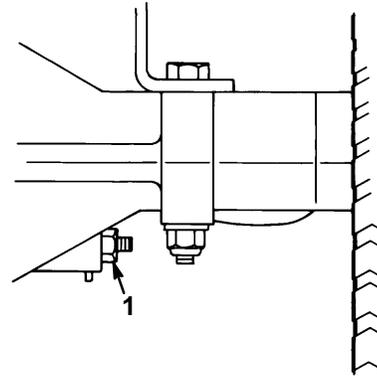

Figure 27
The brake is on the right side of the rear axle, inside the rear tire (Fig. 27). If the brake does not hold securely or stopping power is insufficient, an adjustment is required.
2. To increase braking resistance, tighten the brake adjusting nut (Fig. 27) 1/8 turn clockwise; then check the brake again. Continue this adjusting and checking process until the brake is set properly.